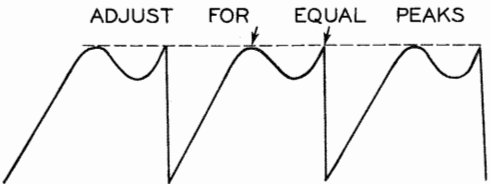

FIG. 4
2. Connect the vertical amplifier of an oscilloscope thru 10MMF to lug 4 of L18. Connect the low side to chassis. Adjust the horizontal waveform slug (B2) until waveform similar to Fig. 4 is obtained. While making this adjustment keep the picture in sync with the horizontal hold and if necessary, B1 and the horizontal lock trimmer (B3).